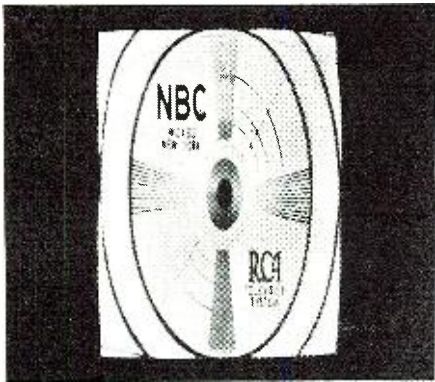

Fig. 4. When the horizontal width, or size, control is incorrectly set, this is the result.
1. *Width and Height Controls:* The width and height controls are adjusted until the picture occupies adequately the fluorescent area of the picture tube screen and has the proper aspect ratio. The transmitted test chart is helpful in making these adjustments. Thus the chart in Fig. 4 is compressed horizontally and the width control must be tuned to spread the picture out. Likewise, the height control is tuned until the chart is properly proportioned vertically. When the picture has the proper aspect ratio, the rings on the test chart are a perfect circle as shown in Fig. 1 and not elliptical as shown in Fig. 4.